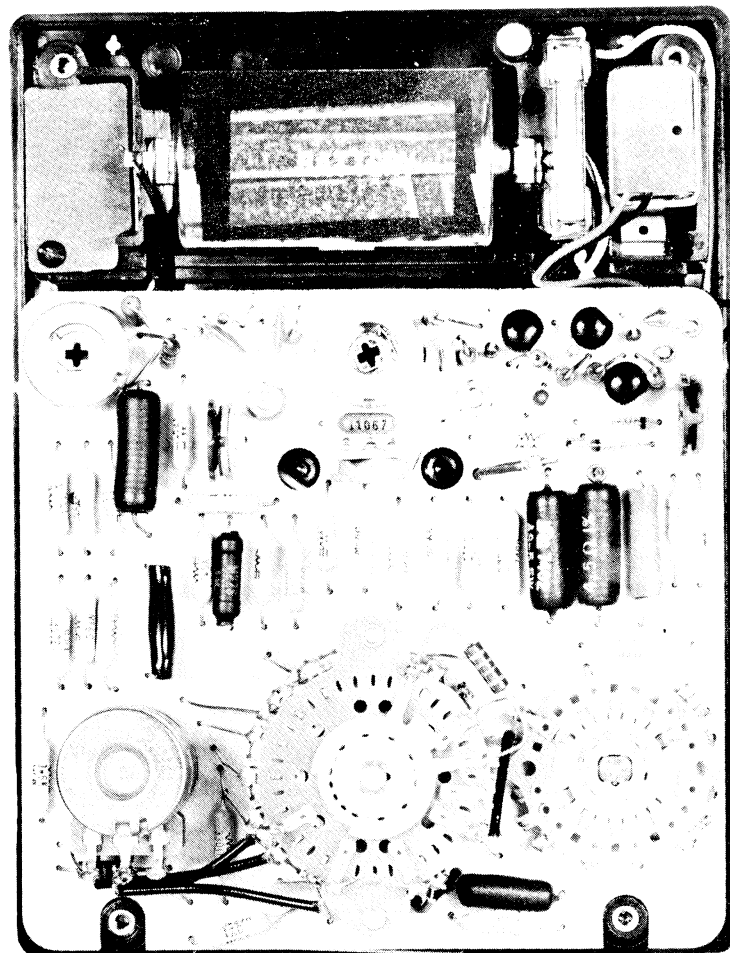

Figure 5-2. Rear Interior (Case Removed)
**NOTE:** If replacement of the 2-amp high current interrupting fuse is necessary, the Instrument case must be removed (see paragraph 5.4 and Figure 5-2).
- c. Lift the case off the Instrument and set it aside. Maintenance now can be performed on the Instrument (Figure 5-2).